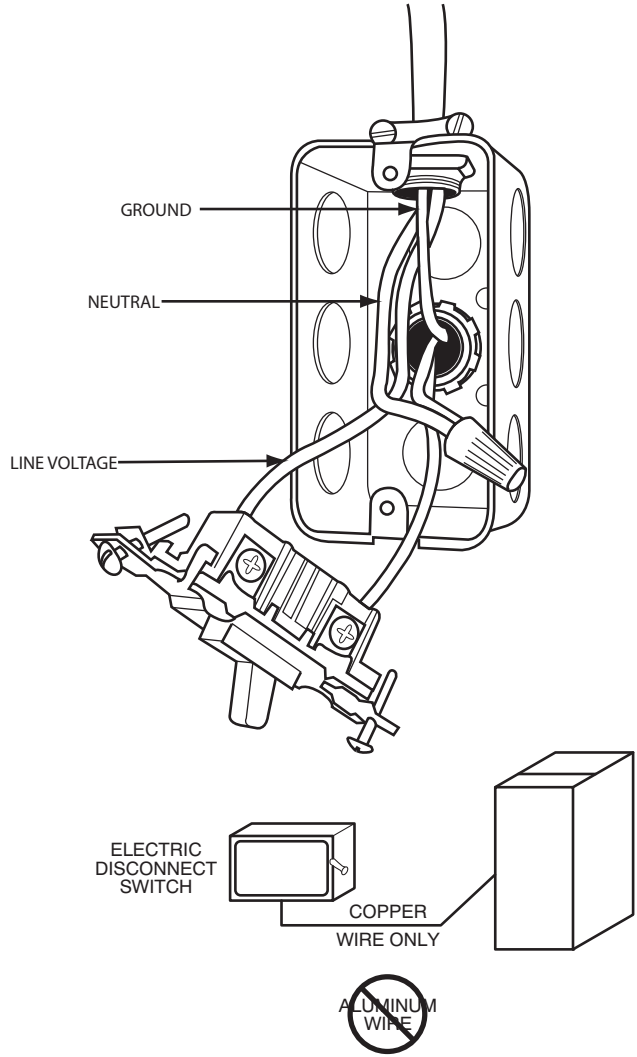

Fig. 33 - Field-Supplied Electrical Box on Furnace Casing
Do not connect aluminum wire between disconnect switch and furnace. Use only copper wire. See **Fig. 33**.
1. Fasten a field-supplied external electrical box to the outside of the casing by driving two field-supplied screws from inside electrical box into casing. See **Fig. 33**.
9. Complete external disconnect wiring and installation. Connect line voltage leads as shown in **Fig. 33**. Use best practices (NEC in USA for wire bushings, strain relief, etc., CANADA: Canadian Electrical Code CSA C22.1)